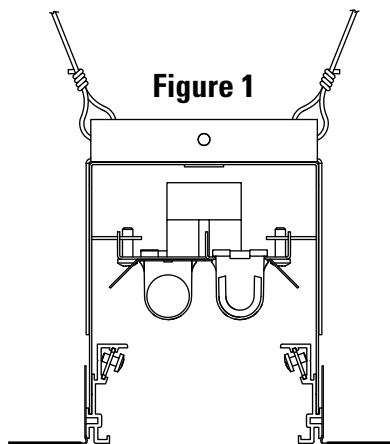

Figure 1
1. Place fixture in desired location and support both ends with hang-wires from structure above. (Fig. 1)
1. Lift starter fixture to desired height and support both ends with hang-wires from structure above, making sure it is properly level lengthwise and widthwise. (Fig. 1) NOTE: starter fixtures are shipped from the factory with a stiffening bracket that needs to be removed before the next fixture is installed.